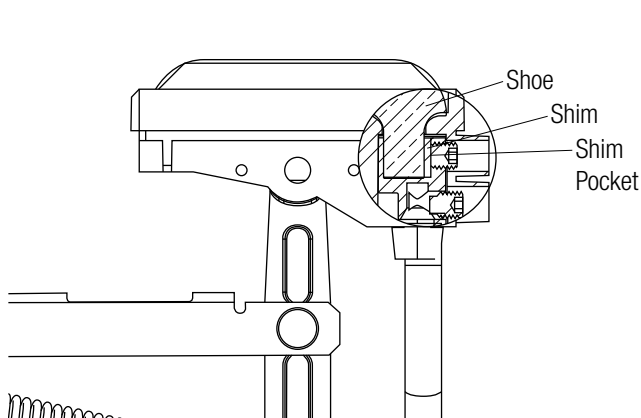

Figure: 23-1
2. Remove shoe by pulling upward, take care not to lose the shim located between the shoe and the setscrew. See **Figure: 23-1**.